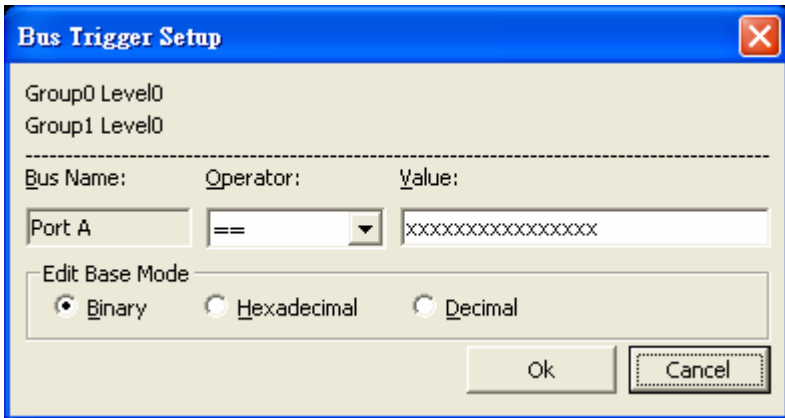

Fig 3-24 – Bus Trigger Setup
1. Highlight the bus which will be triggered then click  icon or select Bus from the Trigger of the Menu bar, the dialogue window as shown in Fig. 3-24 will appear.
2. Set Binary, Hexadecimal or Decimal as the signal of the bus to represent the value(see Fig 3-24).